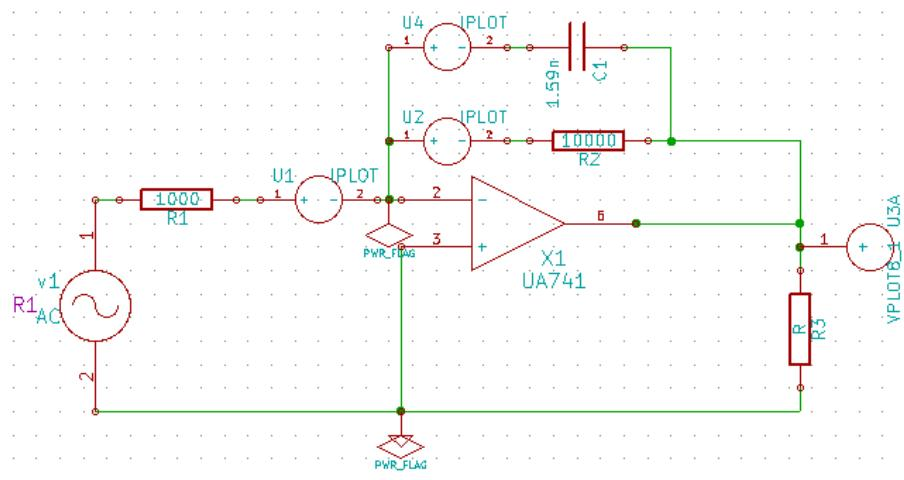

Figure A.31: Schematic
3. **Example 5.7:** For the circuit given in the figure A.31, perform AC analysis where $R_1 = 1\text{k}\Omega$, $R_f = 100\text{k}\Omega$, $C_f = 1.59\text{nF}$ and input voltage $V_i = 1\text{V A.C.}$